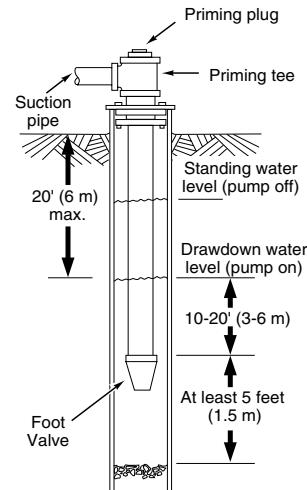

Figure 1 – Cased/Dug Well Installation
- When using a foot valve, a priming tee and plug are recommended (Figure 1).
5. If long, horizontal pipe runs have to be used, install a priming tee between the check valve and the well head (Figure 1). Use schedule 80 or iron pipe.